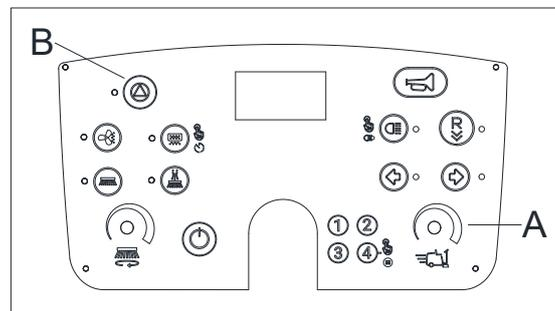

Figure 17
2. Minimize the driving speed using the speed adjustment knob (A, Figure 17).
3. Press the start button (B, Figure 17) and press the accelerator pedal to turn on the main broom for about 1 minute.